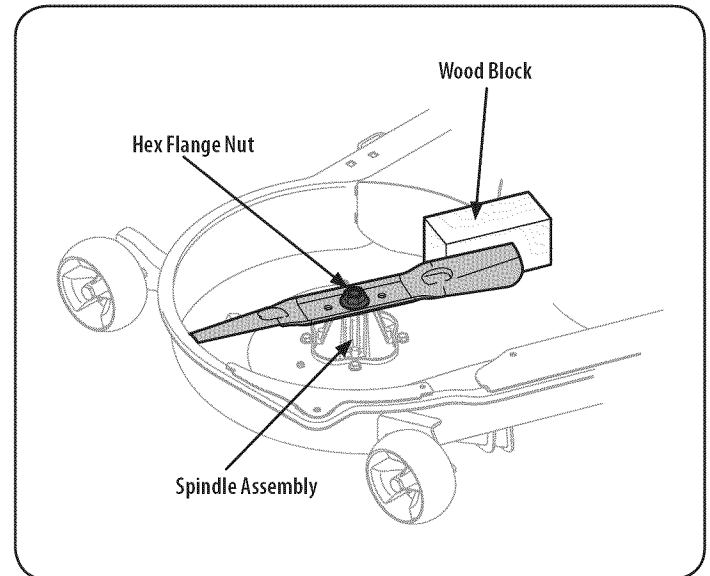

Figure 38
- Use a  $1\frac{5}{16}$ " wrench to hold the hex nut on top of the spindle assembly when loosening the hex nut securing the blade. A block of wood may be placed between the deck housing and the cutting edge of the blade to help in breaking loose the hex nut securing the blade. See Figure 38.